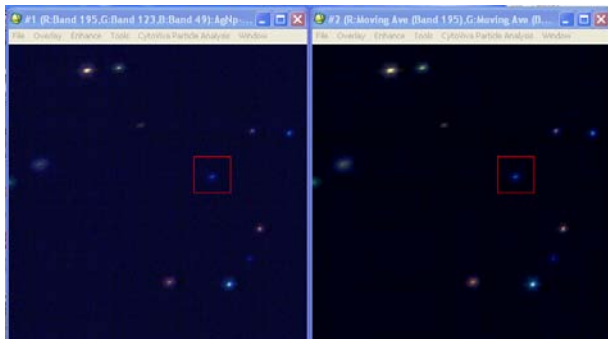

Figure 3. Original and Filtered Image
6. The filtered data cube will open. On the left is the original image and on the right is the smoothed image (see Figure 3.)